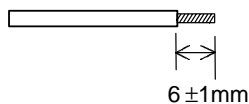

Figure 2-3-5 End treatment
1. Wires connected to control circuit terminals must be 0.5mm2 shielded wire or twisted vinyl wire. Remove the sheath as shown in Figure 2-3-5 and then connect it.